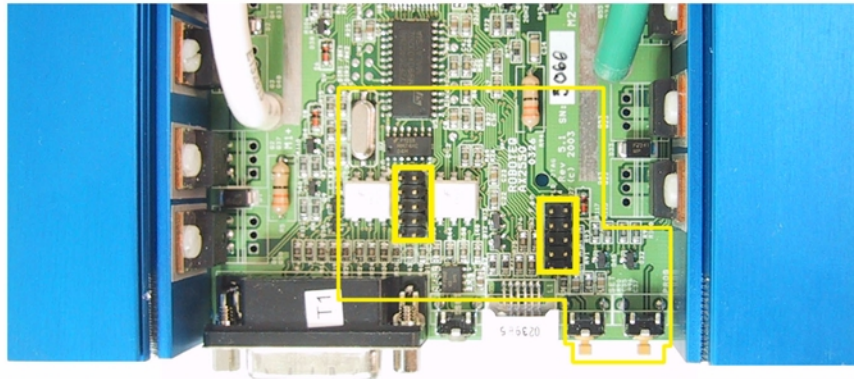

FIGURE 43. Position of Encoder Module on Controller's main board
- 2- Carefully insert the encoder module on top of the two headers present on the controller's main board and shown in Figure 43. Beware that the two matting connectors are precisely aligned.